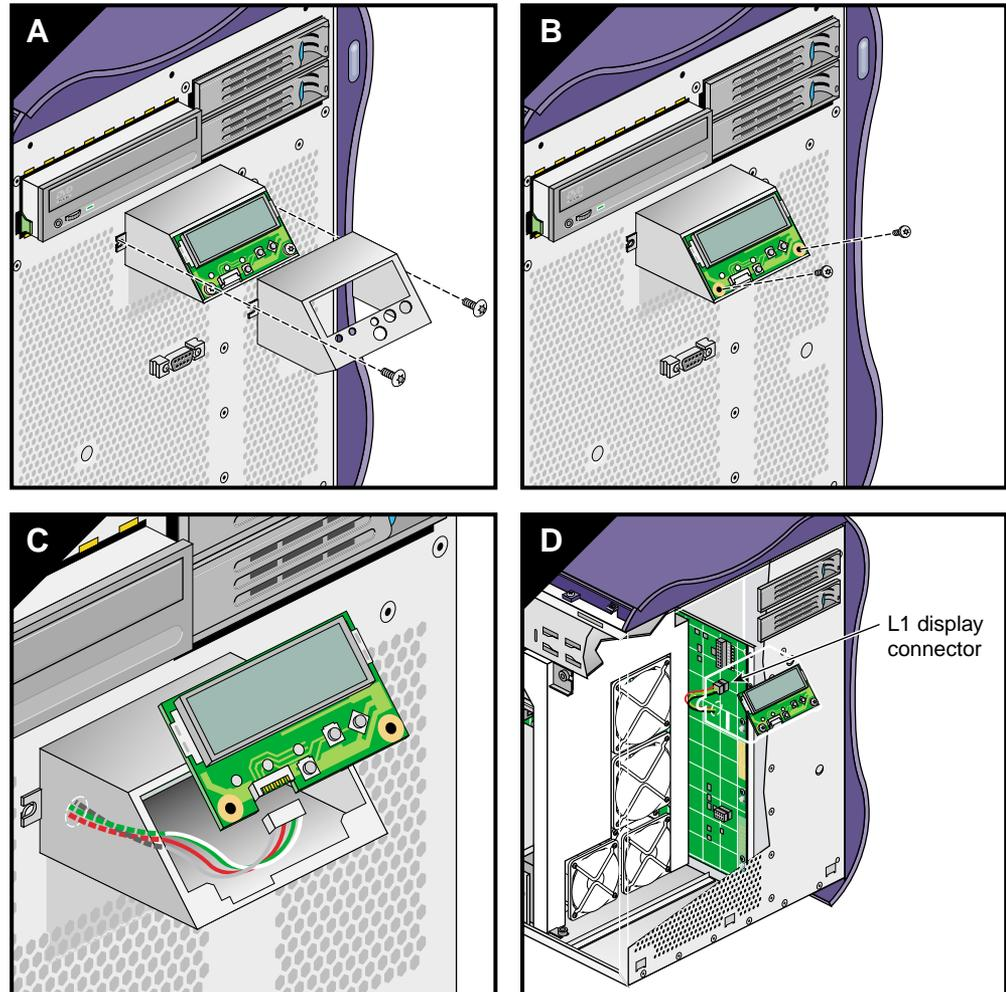

Figure 3-37 Removing the L1 Display Cable
2. Lift the L1 display bracket upward until the hooks on the bracket clear the holes in the enclosure (see Figure 3-37).
3. Carefully remove the two screws that mount the L1 display board to the bracket. Then, grasping the display board by the edges, separate the display board from the bracket (see Figure 3-37).
4. Gently disconnect the L1 display cable from the display board. Place the L1 display board in a secure location (see Figure 3-37).
6. Carefully push the L1 display cable into the hole in the front of the enclosure. Then remove the cable from inside the enclosure (see Figure 3-37).